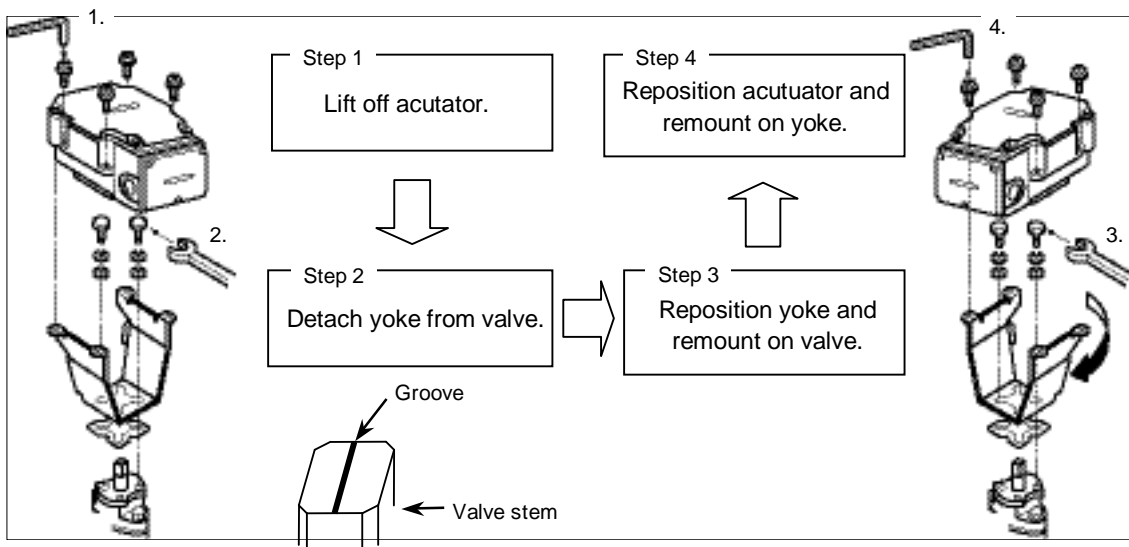

Figure 6. Changing the actuator mounting position
- 2) Remove the screws connecting the actuator and the yoke. Lift the actuator and detach it from the yoke. (The groove at the top of the valve stem is parallel (in fully open position) to the piping.) <Step 1 in Fig. 6>
- 3) Remove the screws connecting the yoke and the valve body. <Step 2 in Fig.6>
- 4) Change the direction of the yoke to the desired direction. The actuator can be horizontally rotated every 90° to fit into the valve mounting position (0°/90°/180°/270° from the factory preset position). <Step 3 in Fig. 6>
- 7) Mount the actuator, with its direction changed, to the yoke. <Step 4 in Fig. 6>